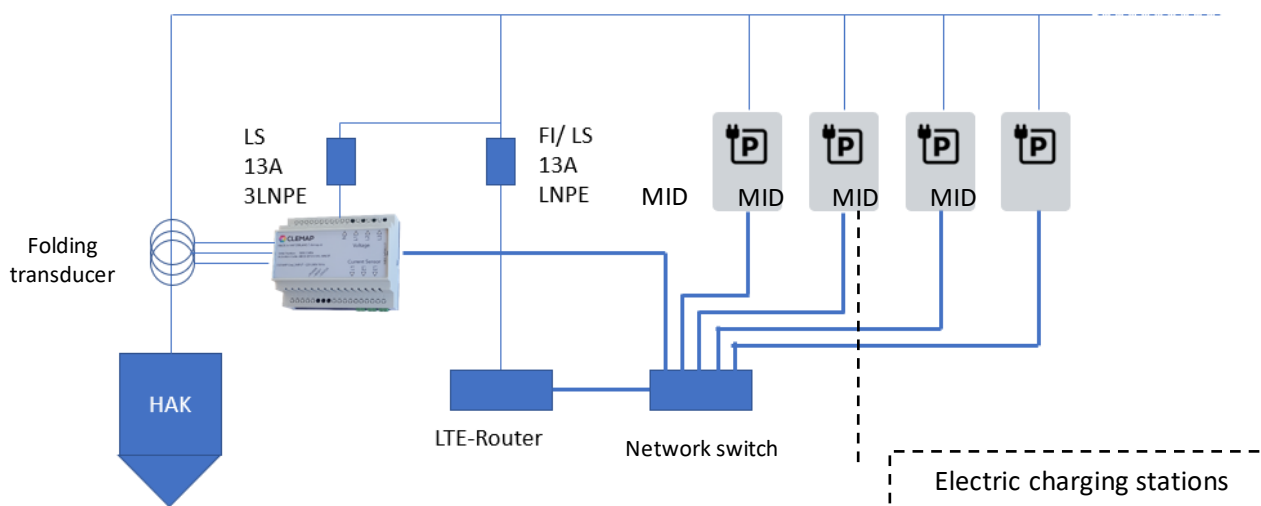

Figure 3: Typical installation of CLEMAP Load Management
- d. Connect the current sensors (b) to the insulated incoming power lines (L1, L2 and L3), **making sure that the arrow shown in figure 3 points in the direction of the electrical loads.**